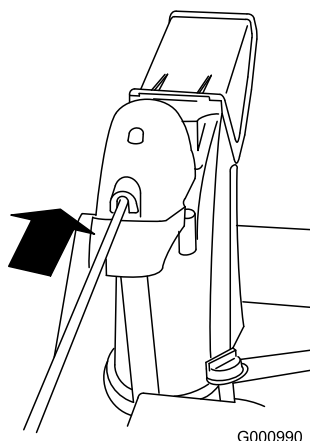

Figure 15
4. Insert the front end of the rod into the opening in the back of the chute gear cover until it slides into the chute gear (Figure 15).